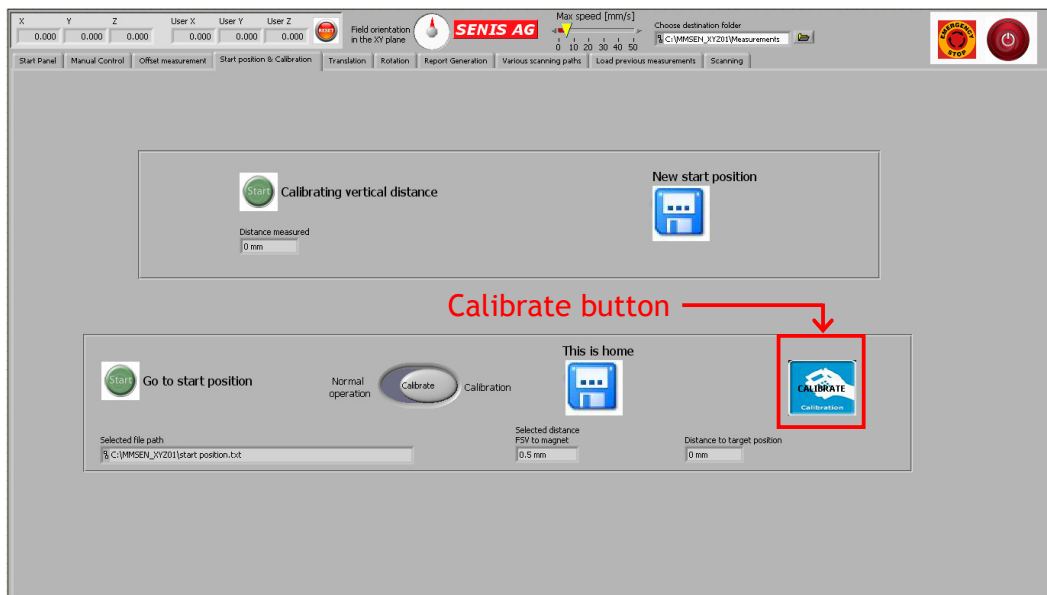

Figure 25: Using the “Calibrate” button
15) Using the arrow icons position the probe approximately above the center of the rotation table, a few millimeters (2-3mm) above the reference magnet surface. Go to “Start position and Calibration” tab and click on the “Calibrate” button (Figure 25);